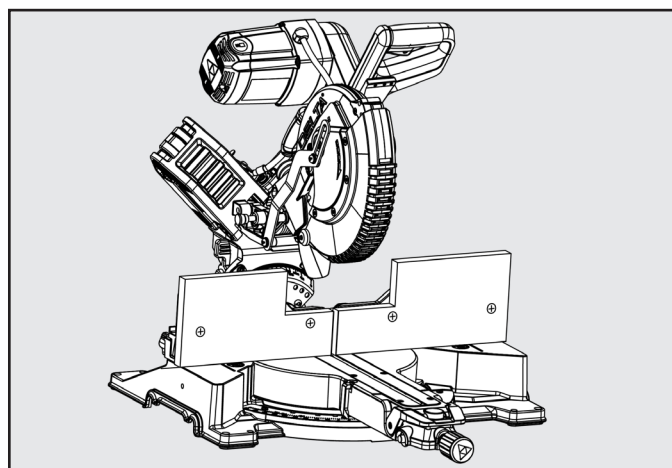

Figure 25
2. Place auxiliary fence wood against miter saw fence. See figure 25. The maximum height for this wood must not exceed 5.5". Check to make sure auxiliary fence does make contact with saw head, check with saw head in the full DOWN and fully RETRACTED position.